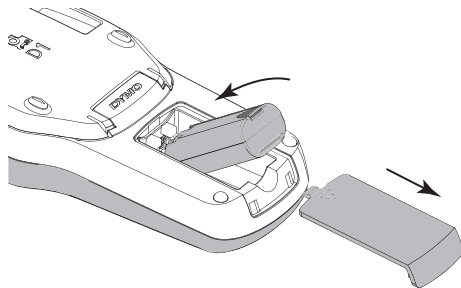

Figure 1
- 1 Slide the battery compartment cover away from the label maker. See Figure 1.